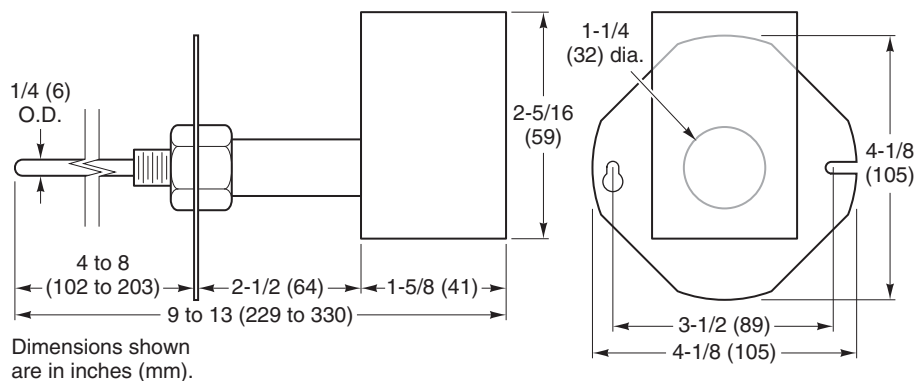

Figure-4 MN-SDT Mounting Dimensions.
2. Use the mounting plate supplied as a template (or refer to Figure-4 for duct mounting dimensions) for mounting hole locations.